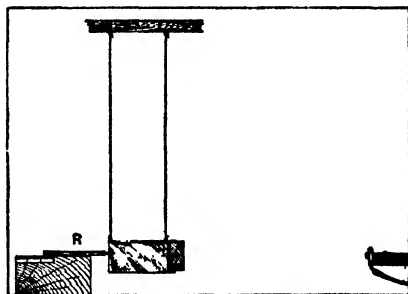

FIG. 64.—Measuring a bullet's speed by a ballistic pendulum.
All the methods we have described measure the average speed of something over a distance: there are one or two ways of measuring the speed of a thing at a particular moment. The first is simple. Let it collide with something and see how hard it hits! This would not be of much use for a racing car, but it does very well for a bullet! If the bullet is fired so that it beds itself in the wooden face of a heavy pendulum slung in the particular way shown in Fig. 64, the faster the bullet is travelling, the further the pendulum will be swung backward. The distance it swings can be measured by letting it push a brass rod (R) back over a scale. Suppose the pendulum weighs 120 lbs., and the bullet $\frac{1}{18}$ lb., and the pendulum took $\frac{3}{4}$ second to swing from right to left and it was pushed back three inches by the blow of the bullet then not very difficult mathematics show the speed of the bullet to be